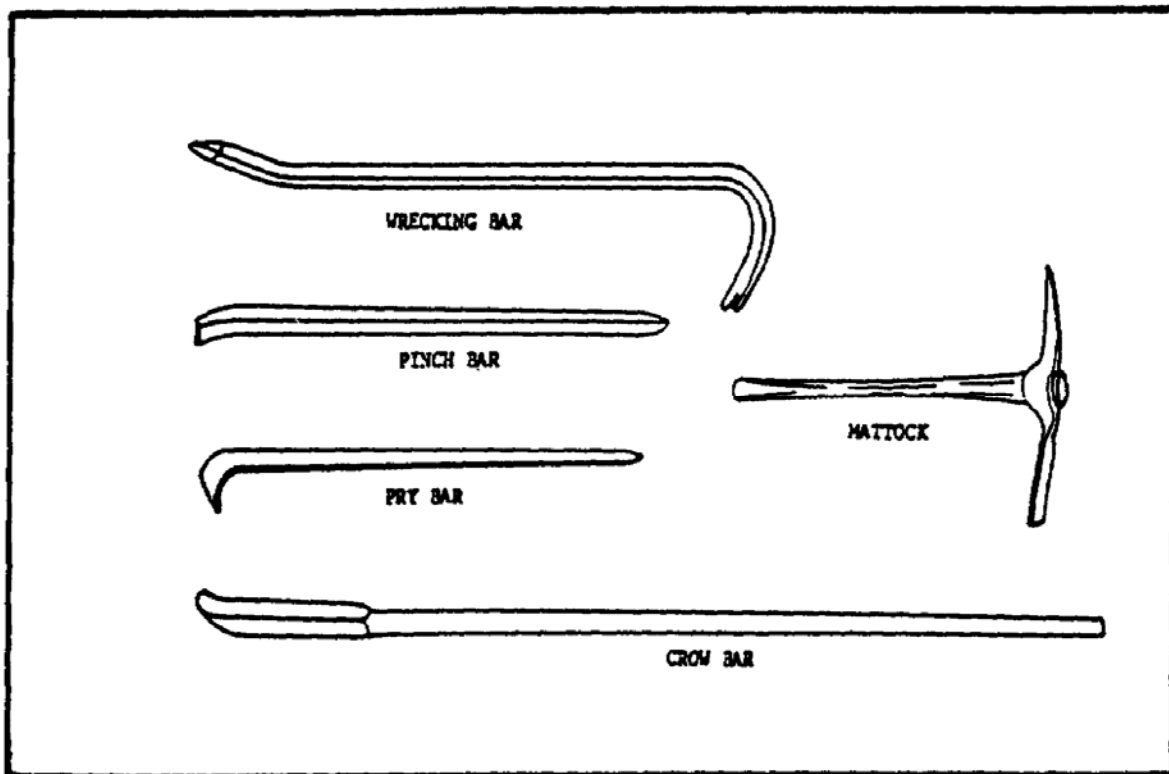

FIGURE 54. BARS AND MATTOCK
(1) *Crowbar.* The crowbar (figure 54) is made of high grade steel, has a slightly bent wedge point at one end, and tapers a little throughout its length. The wedge end is used for prying or for moving heavy timbers and other objects. The blunt end is used for loosening rock formations. Crowbars are available in 4 and 5 foot lengths, with diameters of 1 or 1 1/4 inches.
(2) *Pinch Bar.* The pinch bar (figure 54) has one end bent slightly to a chisel or pinch point and has a tapered point at the other end. Another type has a pinch point at one end and a claw at the other. Pinch bars range in size from 1/2 to 1 inch in diameter and from 12 to 36 inches long. The pinch bar is used in general as the crowbar is used, except for lighter work; in addition, it is used to pull spikes and nails, and for light prying.
(3) *Pry Bar.* The pry bar (figure 54) is 16 inches long and has one end tapered to a point. The opposite end is offset 90 degrees to the bar. It is a combination aligning and prying bar. The tapered point can be used for lining up work, and the offset end can be used for prying out gears, bushings, etc., since the offset point provides a great amount of leverage.
(4) *Wrecking Bar.* The wrecking bar (figure 54) has a gooseneck claw at one end and a pinch point at the other end. Other types may have two gooseneck ends, one with a
(5) *Mattock*. The head of the mattock (figure 54) has two ends. One end is rectangular in cross section and tapers to a point like a pick. The other end has a finely tempered 4 inch wide blade that has a double bevel. The mattock head weighs 5 pounds and is supplied with a wood handle.